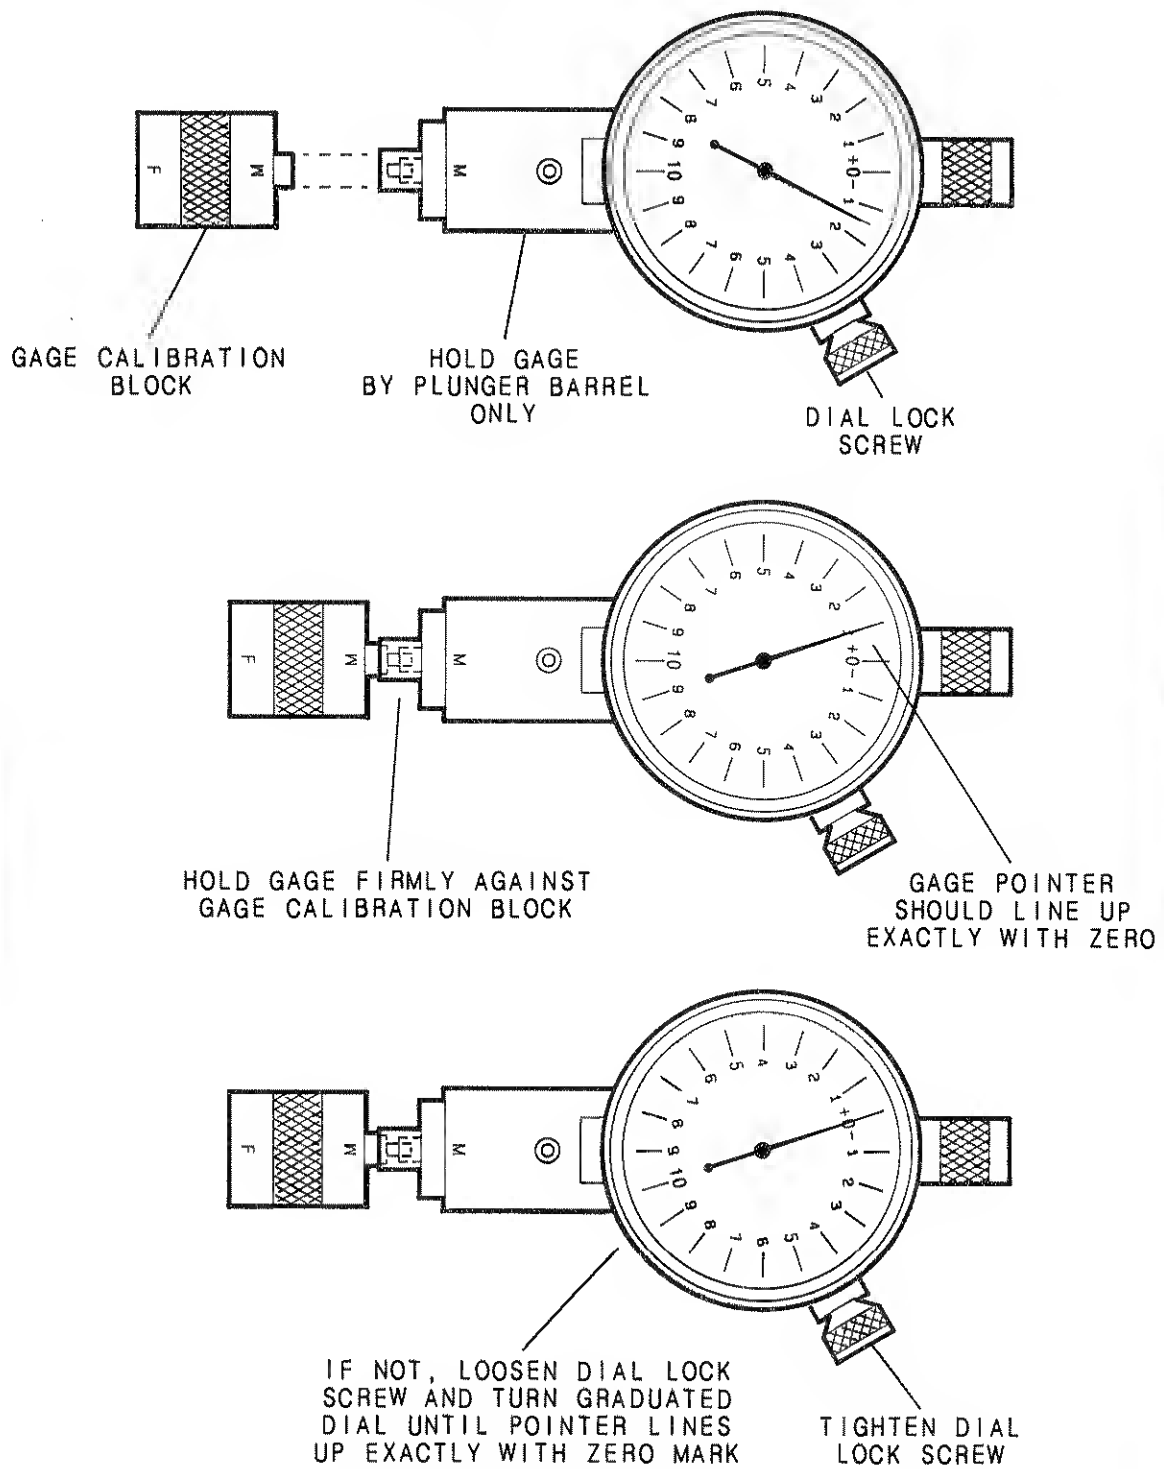

Figure 10. Zeroing the Connector Gage
**Zeroing the Gage.** Zero the gage by following the steps described below and shown in Figure 10. Be sure that you are using the correct connector gage and correct end of the gage calibration block for the connector being measured.
Hold the gage by the plunger barrel *only* (Figure 10). Doing so will prevent errors in gage readings due to the application of stresses to the gage plunger mechanism through the dial indicator housing.